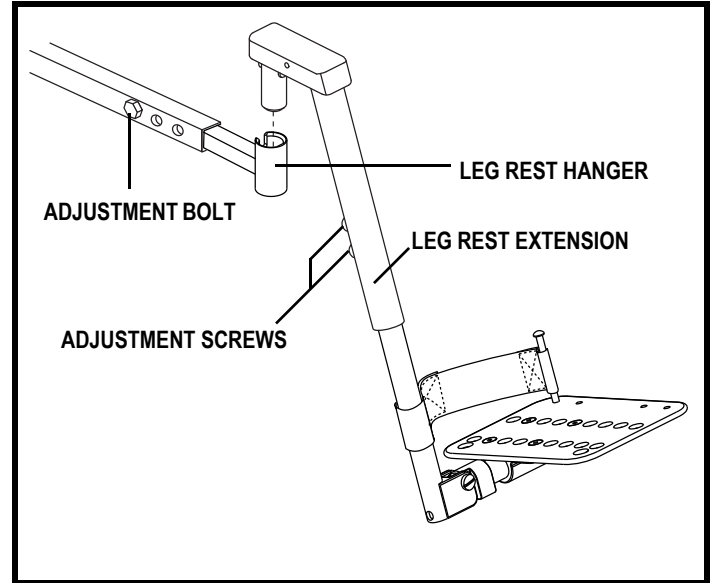

Figure 16. Heavy Duty Drop-In Leg Rests
1. Remove the adjustment bolt from the side rail. See figure 16.
1. Remove the adjustment screws from the leg rest extension. See figure 16.